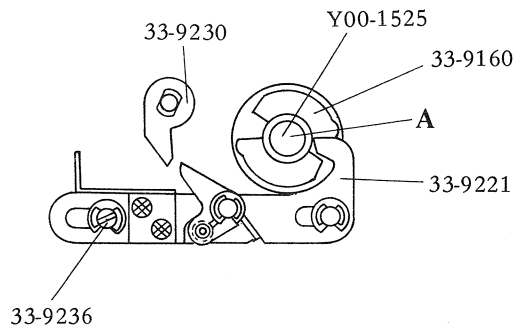

Fig. 11
2. Adjust the Eccentric Screw (33-9236) so that the Interlock Claw (33-9230) is disengaged at the press of the shutter button (Fig. 11).
Requirement: The microswitch should be activated at the position of  $-1.2 \sim -1.4\text{mm}$  from the maximum "A" when the shutter button is pressed (Fig. 11).
- Loosen the Screw (X18-200508) and adjust the engagement "B" of the Shaft (Y00-1525) so that it comes in contact with the stopper (Fig. 11 and Fig. 14).